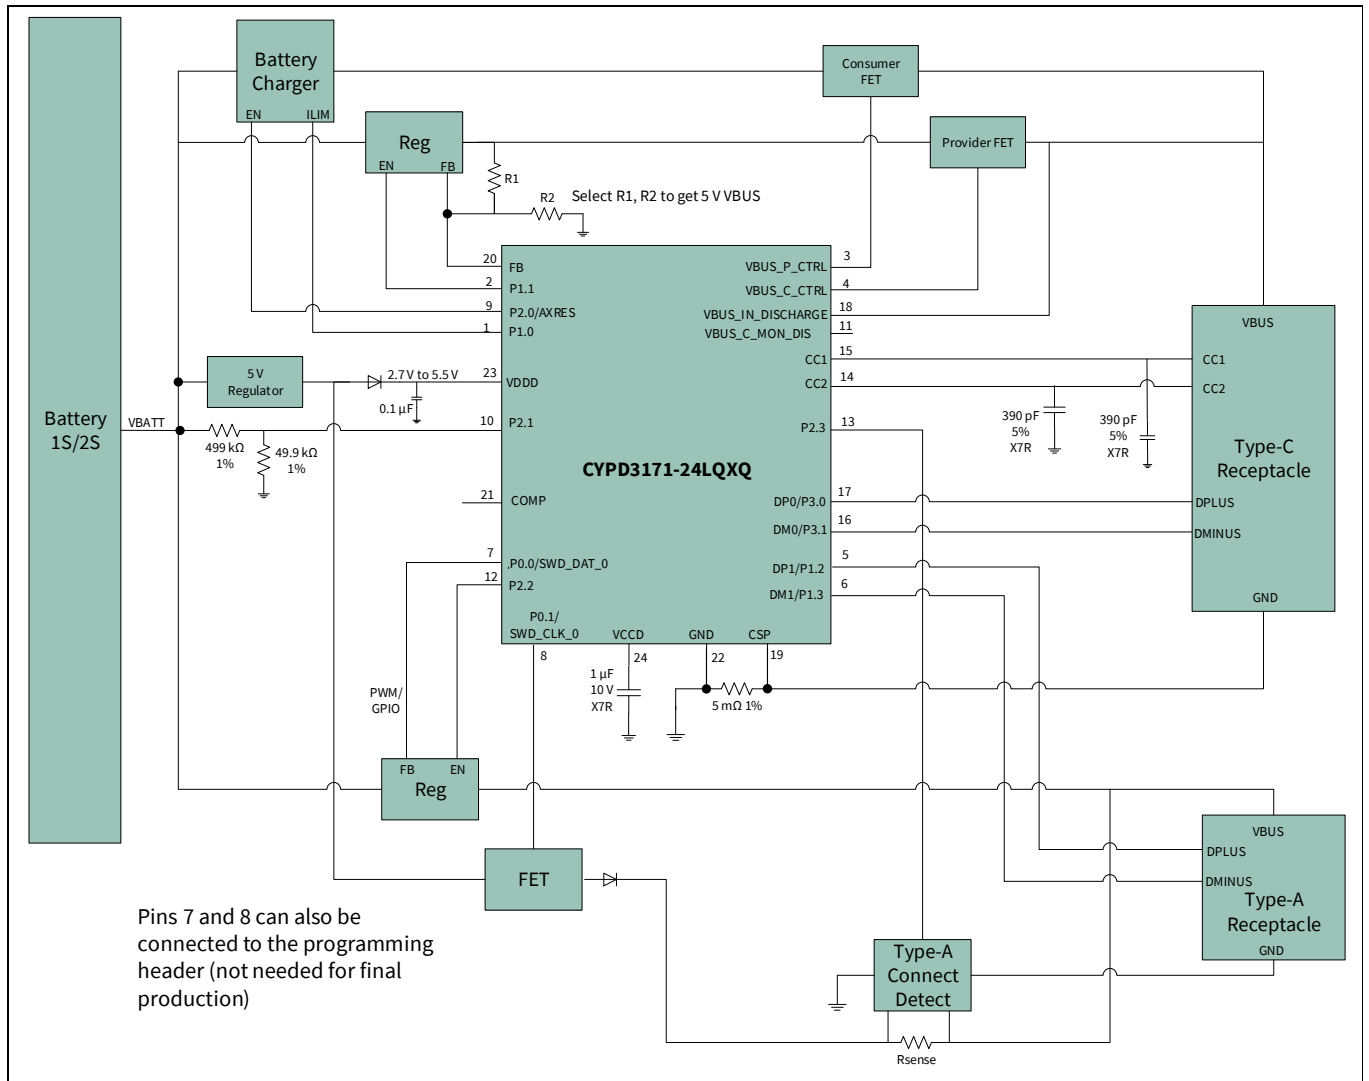

Figure 10 CCG3PA power bank application diagram
**Figure 10** shows the application diagram of a CCG3PA based power bank application. It shows dual port power bank implementation using CCG3PA device. The power bank application can charge portable devices connected to the Type-C and Type-A port simultaneously. The Type-C port can be configured to support USB PD 3.1, QC 4.0, Apple Charging 2.4A, and AFC. The Type-A port can be configured to support QC3.0, Apple Charging, and AFC. The battery can be charged from Type-C and USB PD power adapters or BC1.2 power adapters.